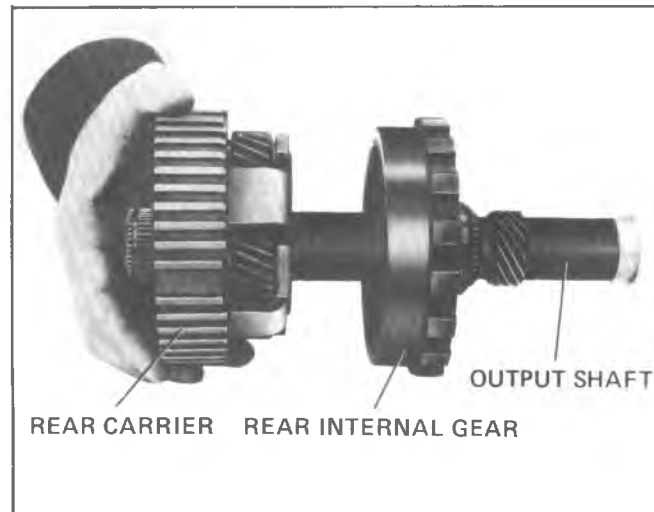

Fig. 7A-72A--Installing Rear Carrier Into Rear Internal Gear
6. Install roller clutch and rear carrier assembly into rear internal gear (Fig. 7A-72A).